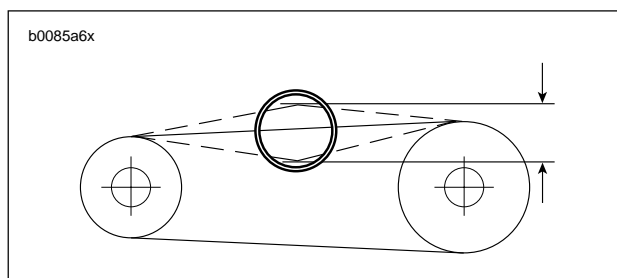

Figure 1-27. Measuring Primary Chain Tension
2. See Figure 1-27. Check primary chain tension by measuring vertical free play.